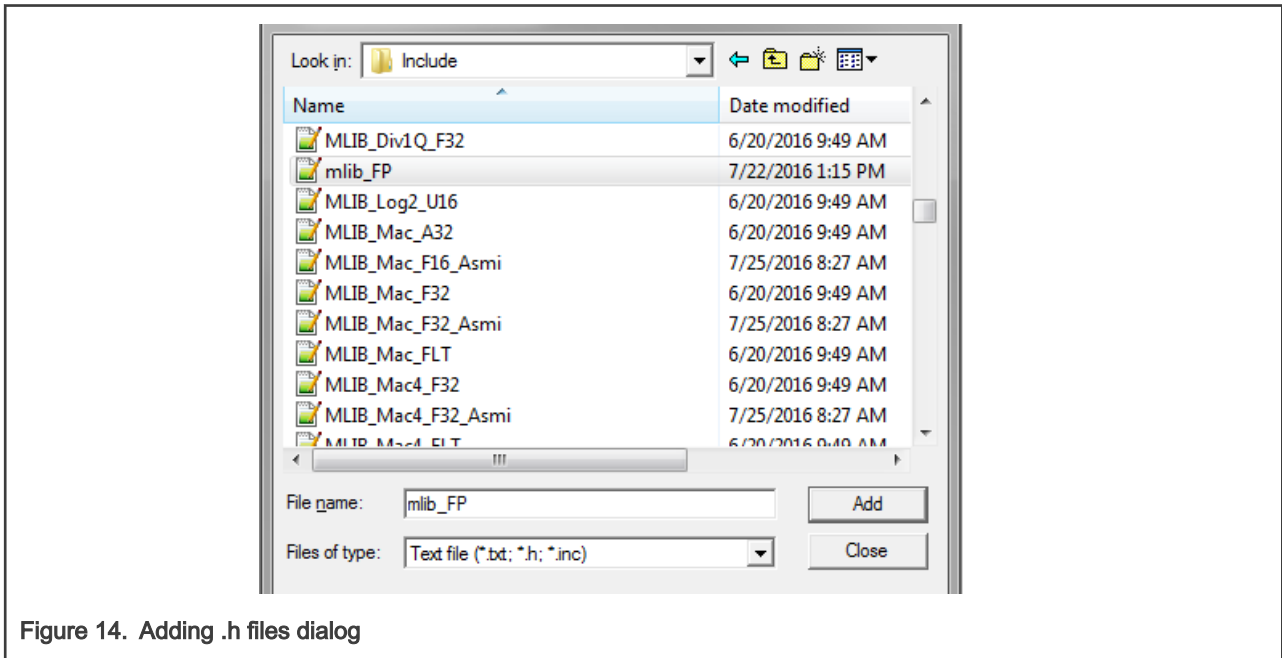

Figure 14. Adding .h files dialog
4. Navigate into the library installation folder C:\NXP\RTCESL\CM33F_RTCESL_4.7_KEIL\MLIB\Include, and select the *mlib_FP.h* file. If the file does not appear, set the Files of type filter to Text file. Click Add. See Figure 14.